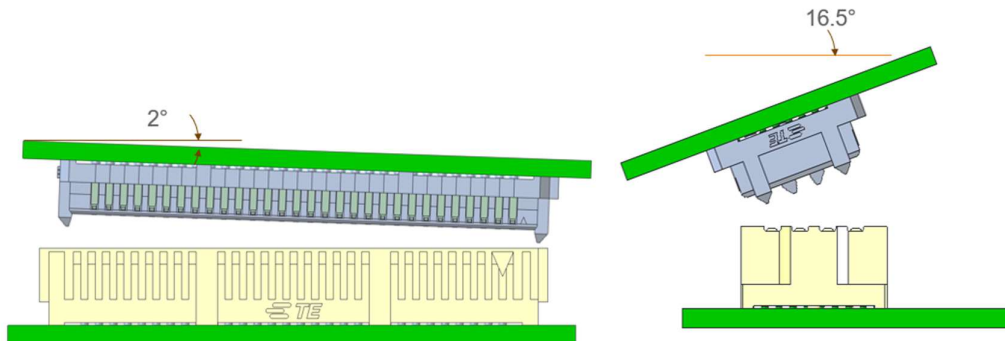

Figure 10
2. The connector guide is with ability $\pm 2^\circ$ with length direction and $\pm 16.5^\circ$ with width direction angle offset available when connectors are free-floating. See Figure 10.